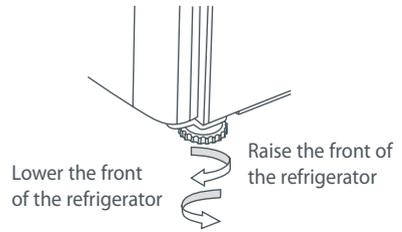

Fig.10 Refrigerator feet
- C Adjust the front feet down until the refrigerator is leaning backward with the front approximately $\frac{3}{8}$ " (10 mm) higher than the back. This will ensure a good door closing action (refer to Fig.10).